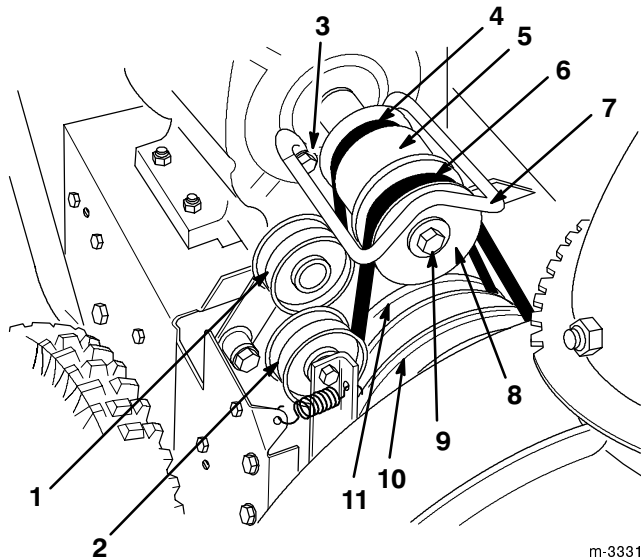

Figure 27
If the traction belt (Fig. 27) becomes worn, oil-soaked, or otherwise damaged, replace the belt. You can purchase a new belt from your Authorized Service Dealer.
5. Remove two screws, two washers, and two lock washers that secure the belt guide (Fig. 27).
6. Remove the engine crankshaft screw, lock washer, and washer (Fig. 27).
7. Separate and remove the engine pulley sheave (Fig. 27).
9. Remove the engine pulley (Fig. 27).
10. Remove the traction belt from the traction pulley and the engine crankshaft (Fig. 27).
11. Pull the traction idler pulley outward and install a new traction belt (Fig. 27).
13. Pull the idler pulley outward and loop the auger/impeller drive belt in front of the engine pulley, making sure that the belt is on the inside of the idler pulley (Fig. 27).
5. Remove the two screws, two washers, and two lock washers that secure the belt guide (Fig. 27).
8. Remove the auger/impeller drive belt (Fig. 27).
9. Pull the idler pulley outward and install a new belt around the large auger/impeller pulley (Fig. 27).
10. Loop the belt in front of the engine pulley, making sure that the belt is on the inside of the idler pulley (Fig. 27).